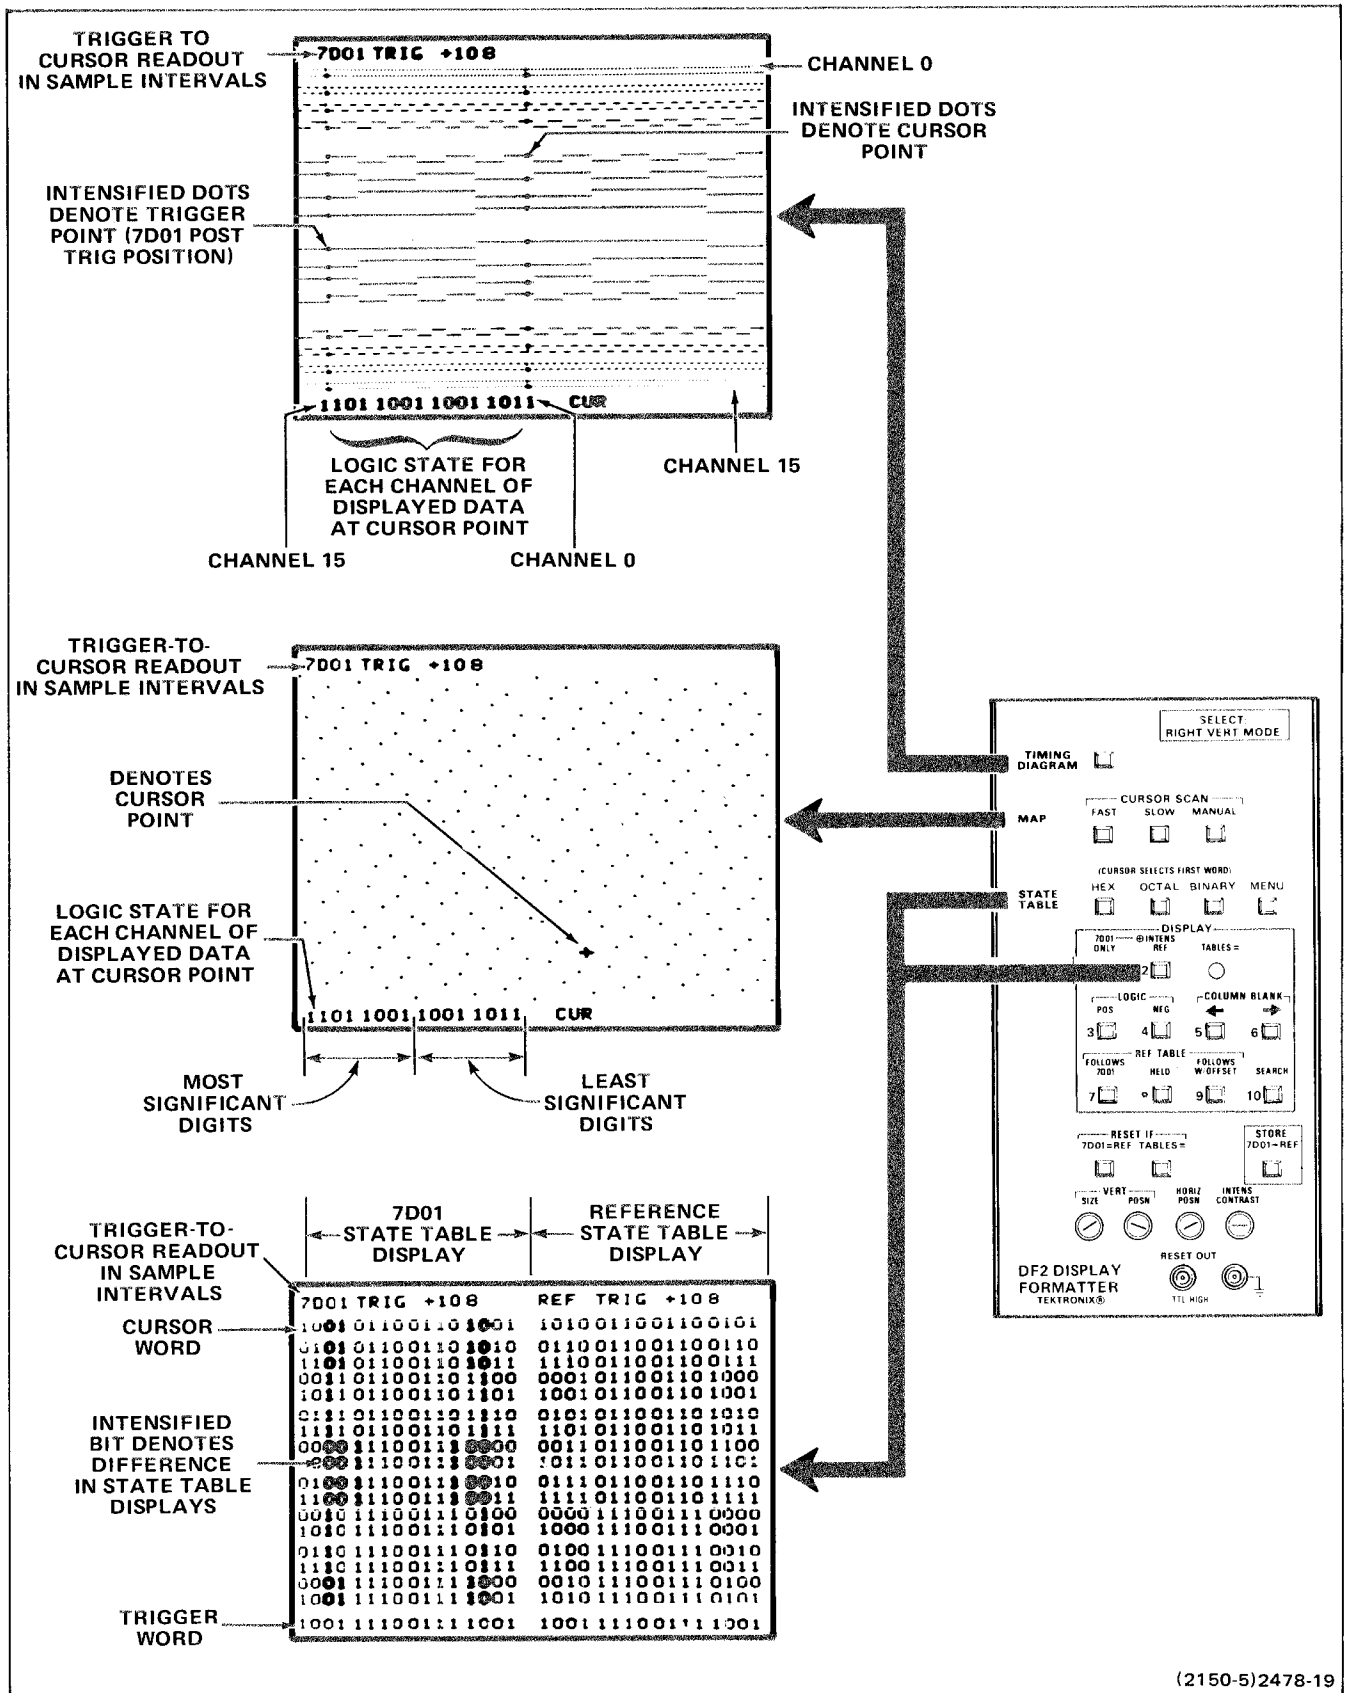

Figure 2-3. Typical DF Display Modes.
The DF displays digital data in 3 Display Modes: Timing Diagram, Map, and State Table. Figure 2-3 shows the controls required to activate typical DF displays.
The front-panel TIMING DIAGRAM push button selects the Timing Diagram display (4, 8, or 16 channels) from the companion 7D01 Logic Analyzer (see Fig. 2-3). The cursor function of the 7D01 provides an intensified zone on the data display and a corresponding numerical readout display shows the logic state for each displayed channel of data. The position of the cursor, relative to the trigger, is also displayed on the crt readout. Refer to the 7D01 manual for more information on the 7D01 Logic Analyzer.
The Map function provides a view of the 7D01 memory displayed as x-y coordinate dots on the crt. The vertical axis represents the most significant half of the data word and the horizontal axis represents the least significant half (see Figure 2-3).
displayed. If the trigger word is displayed in the first 17 words of the state table, it is indicated by a blinking condition. The position of the cursor, relative to the trigger, is also displayed on the crt readout (see Figure 2-3).
**7D01 ⊕ INTENS REF.** Two state tables are displayed simultaneously on the crt. The state table from the 7D01 is displayed on the left half of the crt and a reference state table is displayed on the right half of the crt (see Figure 2-3). When the 7D01 ⊕ INTENS REF is initially selected, the STORE 7D01→REF push button must be pressed to load the reference memory. Any differences between the 7D01 and reference state tables are indicated by intensified bits at the appropriate location in the 7D01 state table. Any differences in the state tables due to old data, indeterminate data, end data, or blanked columns, is interpreted as "don't care" conditions and are not intensified in the 7D01 state table (refer to the Glossary in the General Information section). If there are no differences between state tables, the TABLES= indicator is illuminated.